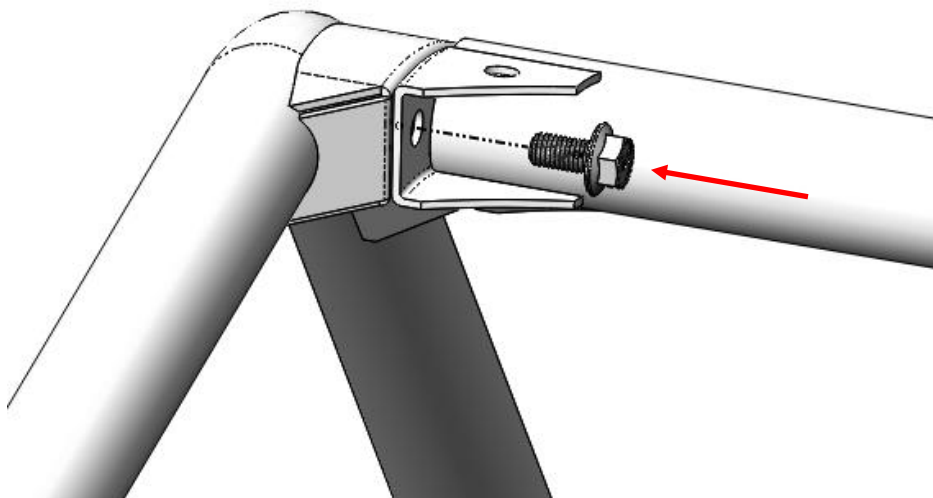

Figure 3: Remove the factory cross member bolt.
2. Remove the factory bolt from the driver's side of the front cross member as indicated in Figure 3. The bolt will be reused.